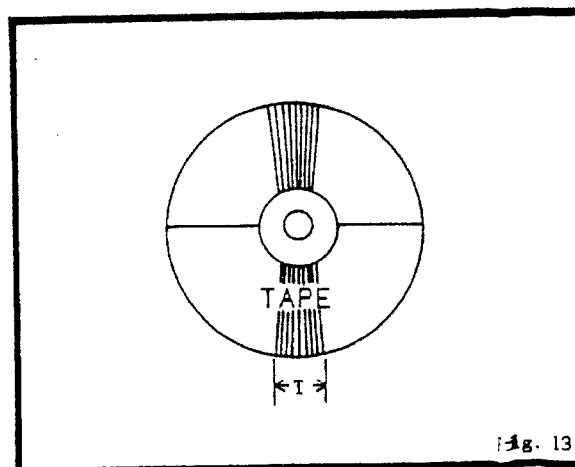

Fig. 13
- (1) Adjust letter "TAPE" in the character generator to center position in the portion 'T' as shown in Fig. 13 with TC4201.